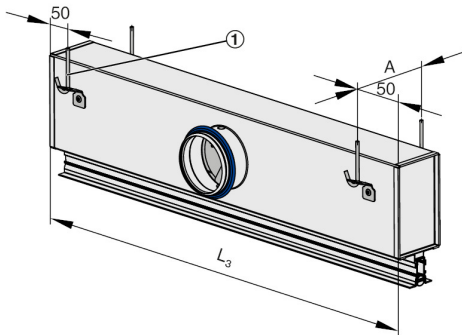

Fig. 8: Plenum box suspension
1. ▶ Fix the suspension parts such as ropes, cables or metal hangers (Fig. 8/1) to the ceiling.